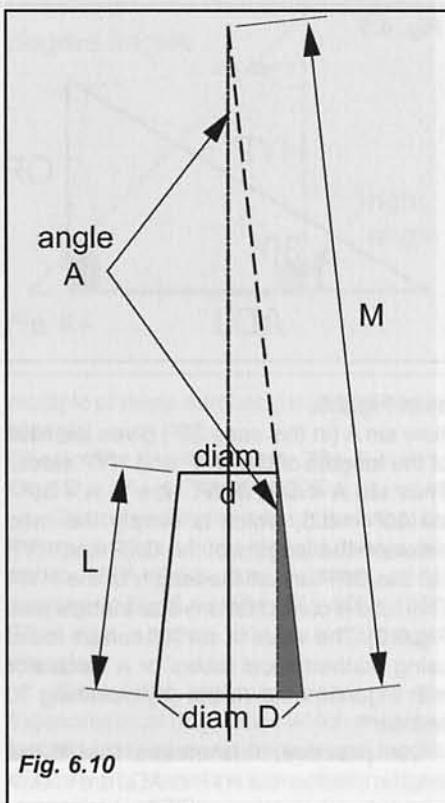
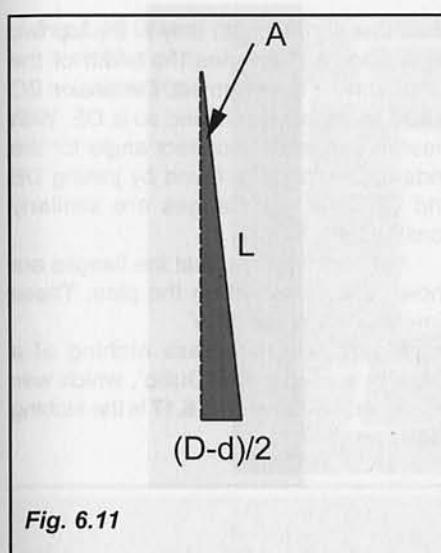

Fig. 6.10
Fig. 6.11
Assume this is what is required (Fig.6.10). Firstly you need to complete the cone to obtain the maximum radius of the development (M). To find this use trig to calculate the angle A (Fig.6.11 – the shaded
area of Fig.6.10)